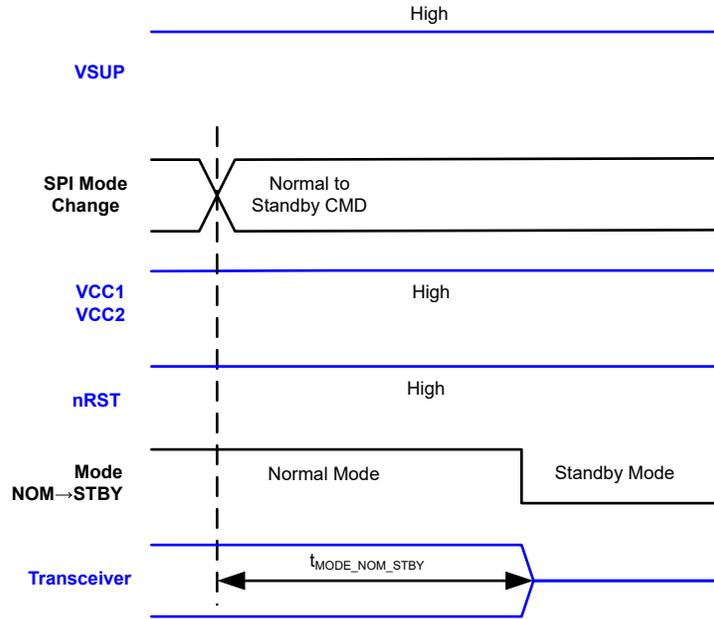

Figure 7-16. Normal to Standby Timing
- B. The blue signals are input or output of the TCAN245x-Q1 and the black signals are internal to the TCAN245x-Q1. This is for the timing diagrams Figure 7-13 , Figure 7-14, Figure 7-15, Figure 7-16.